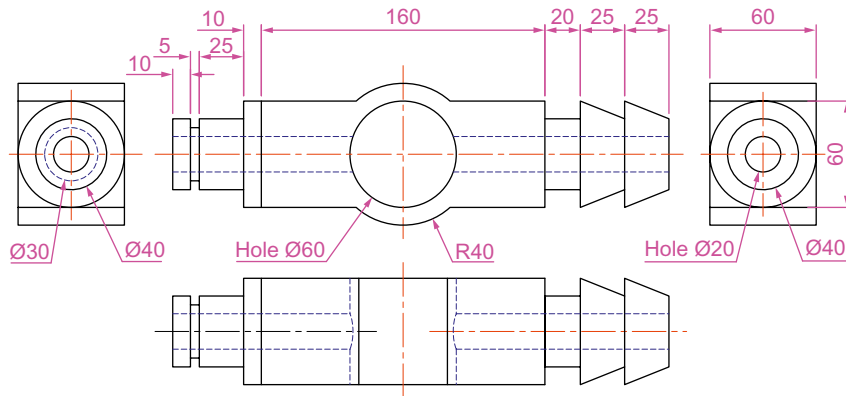

Fig. 18.15 Second example – 3D models dimensions
1. **Top**. (Fig. 18.15) Construct polyline outlines for the body extrusion and the solids of revolution for the two end parts. Extrude the body and subtract its hole and using the **Revolve** tool form the two end solids of revolution.